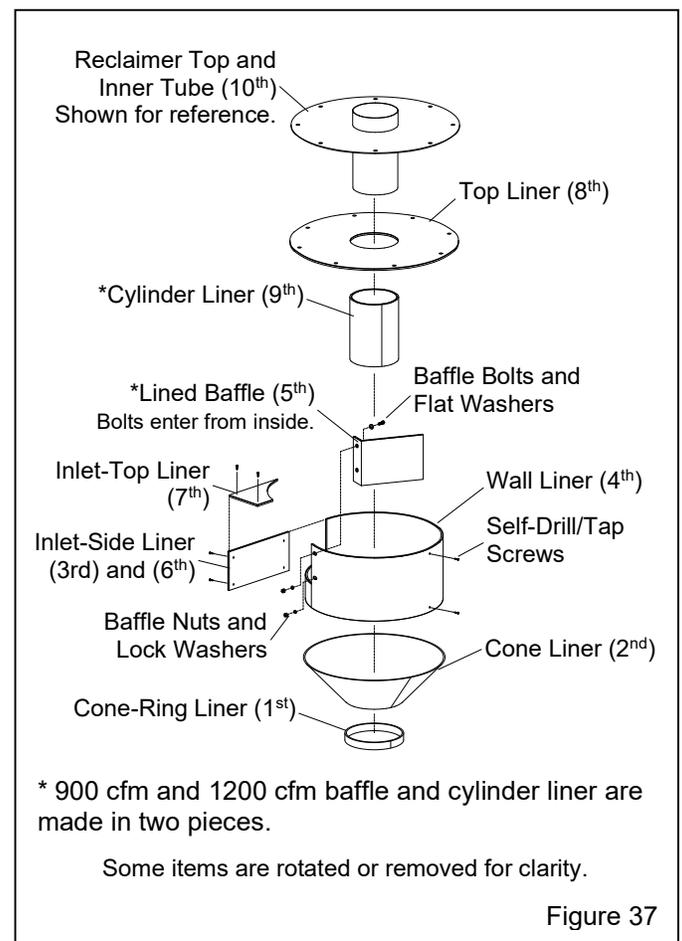

Figure 37
## 7.12 Replacing or Field Installing Optional Reclaimer Rubber Liners – Figure 37
The reclaimer must be designed to accept liners and have a removable top, as shown in Figure 37. **NOTE: The following instructions are to replace existing liners or field installing new liners into current modular-style 900 cfm and 1200 cfm reclaimers only.**
**Installation Notes:** The numbers in parentheses (-) shown in Figure 37 and in the following applicable paragraphs show the recommended order of installation. When installing the liners, make sure that seams are aligned. The final assembly must be smooth and free of protrusions, edges, and gaps. Any edges will disrupt the air flow, cause wear, and affect the reclaimer's media cleaning efficiency.